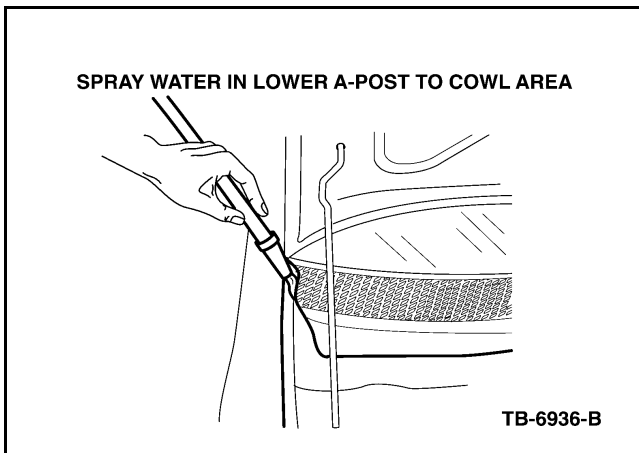

Figure 2 - Article 05-13-3
2. Open the hood and direct water (from the side of the vehicle) into the base of the A-pillar in the hood hinge area (Figure 2).